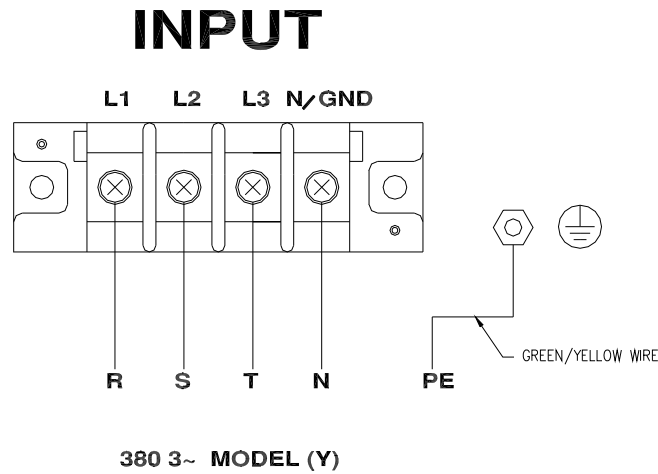

Figure 2-2 6560/6590 380 3~Y Input Connection
4. Connect the ac lines to the terminal blocks of the AC source as Figure 2-2 shows.